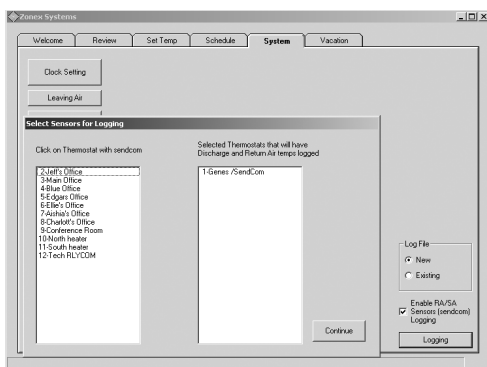

Fig. 32
- a. Click on the box labeled **Enable RA/SA Sensors (SENDCOM Logging)**. This will open another box, which lists all thermostats in your system (*see Fig. 32*).